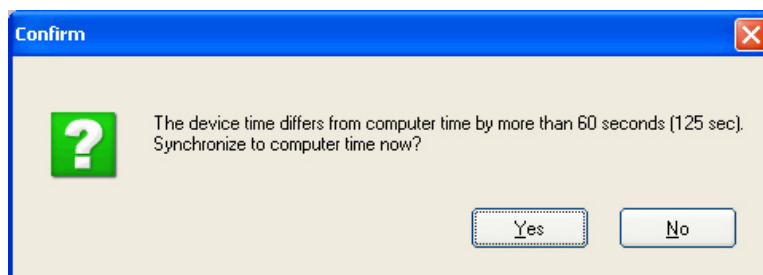

Figure 4.3—Prompt for authorizing time and date synchronization
3. If the internal time and date programmed into the instrument differs from the time and date displayed on the computer by more than 60 seconds, the software will prompt the user to synchronize the instrument time/date to match the computer time/date (Figure 4.3, page 37). This ensures that the instrument displays correct time, regardless of time zone differences.